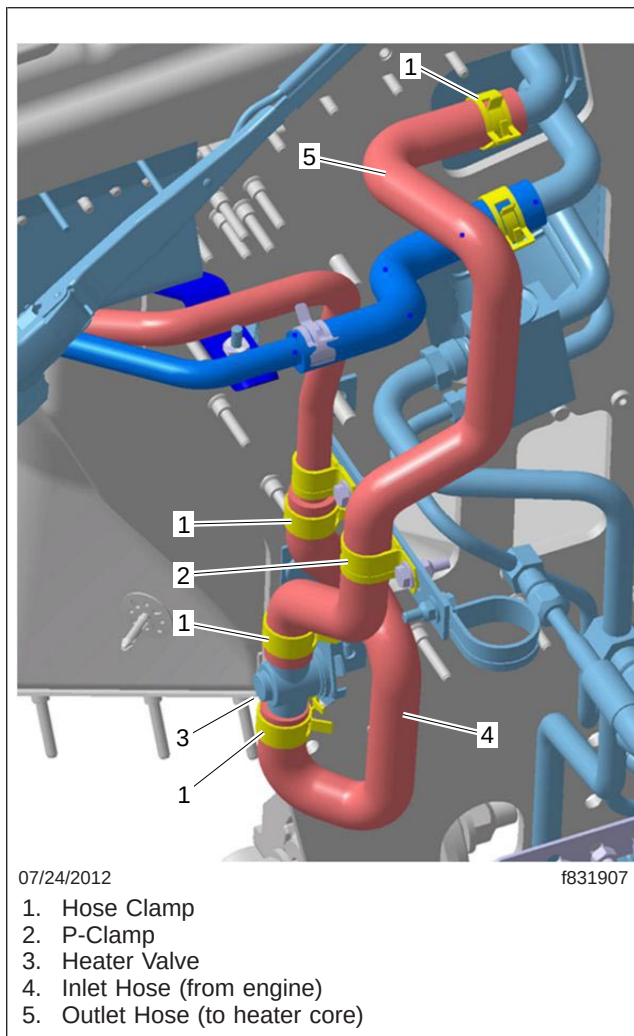
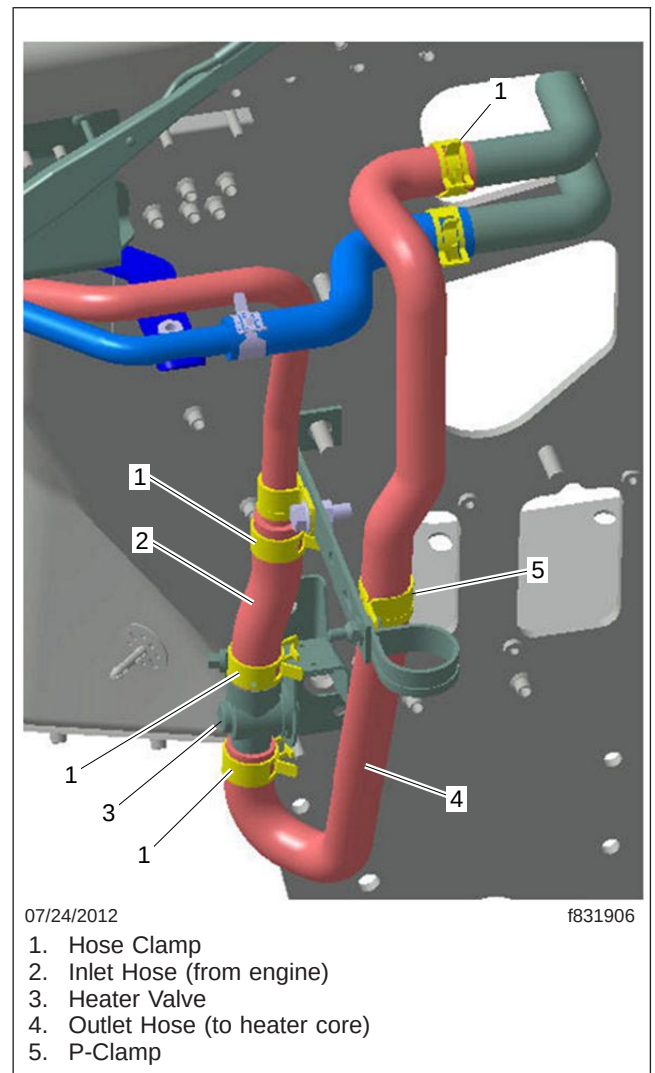

Fig. 1, Correct Heater Valve Plumbing
Fig. 2, Incorrect Heater Valve Plumbing
Some right-hand drive Century Class and Coronado vehicles have diminished A/C performance due to the heater valve being plumbed incorrectly. If the heater core feels warm with the heater off, check the plumbing on the heater valve. The valve should be plumbed as shown in Fig. 1. If the valve is plumbed as shown in Fig. 2 replace the hoses with the ones listed in Table 1 and route them as shown in Fig. 1.
5. Remove the old hoses. See Fig. 2.
6. Install the new hoses. See Fig. 1.
7. Install the P-clamps. See Fig. 1.